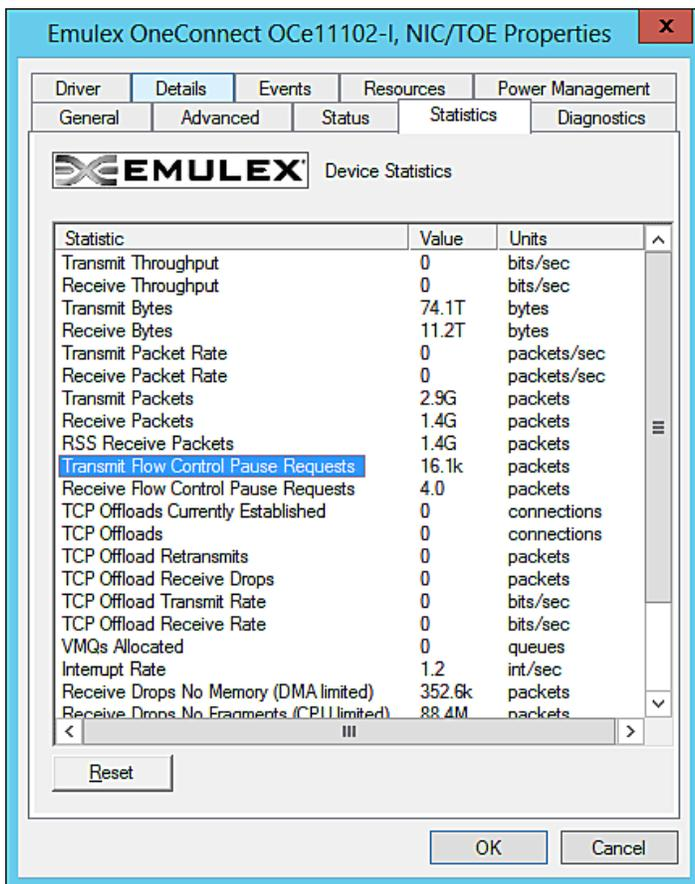

Figure 3-3 NIC/TOE Statistics Properties in Windows Server 2008
3. Click **Properties**, then click the **Statistics** tab (Figure 3-3 on page 58).